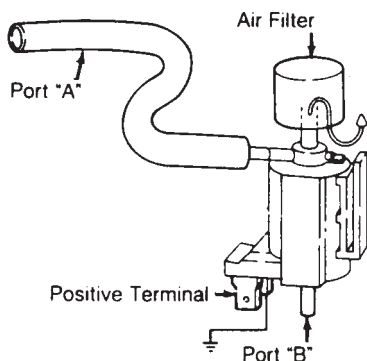

FIGURE 12: Typical Vacuum Solenoid
- 1) Disconnect vacuum and electrical connectors from the solenoid. Connect the pump to port "B" and attempt to apply vacuum with pump. Vacuum should be released through port "A" (FIGURE 12).